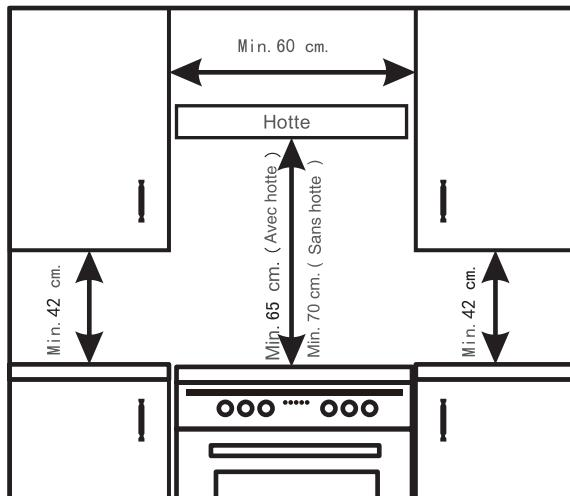

Figure 1
4. Place the wall cabinets adjacent to the hood at a minimum height of 42 cm from the hobs as indicated in figure 1.
6. Should the cooker be installed beneath a wall cabinet, the latter should be situated at least 70 cm away from the hobs as indicated in figure 1.
7. Cut-out for the cooker cabinet should have the dimensions indicated in the figure 1.